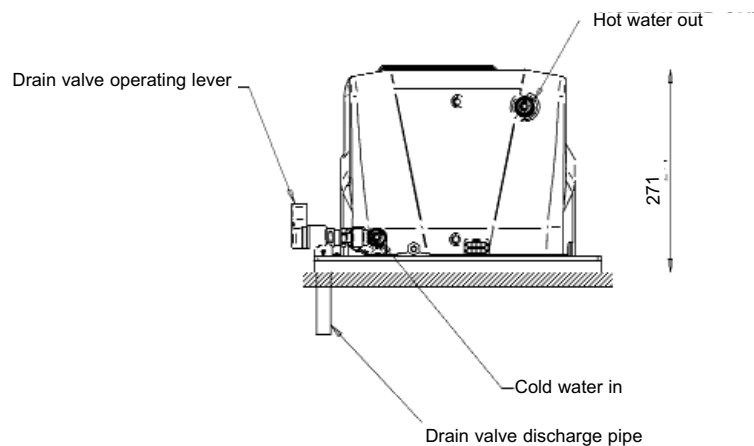

Fig. 4
- Fig. 4 Dimensions – front view